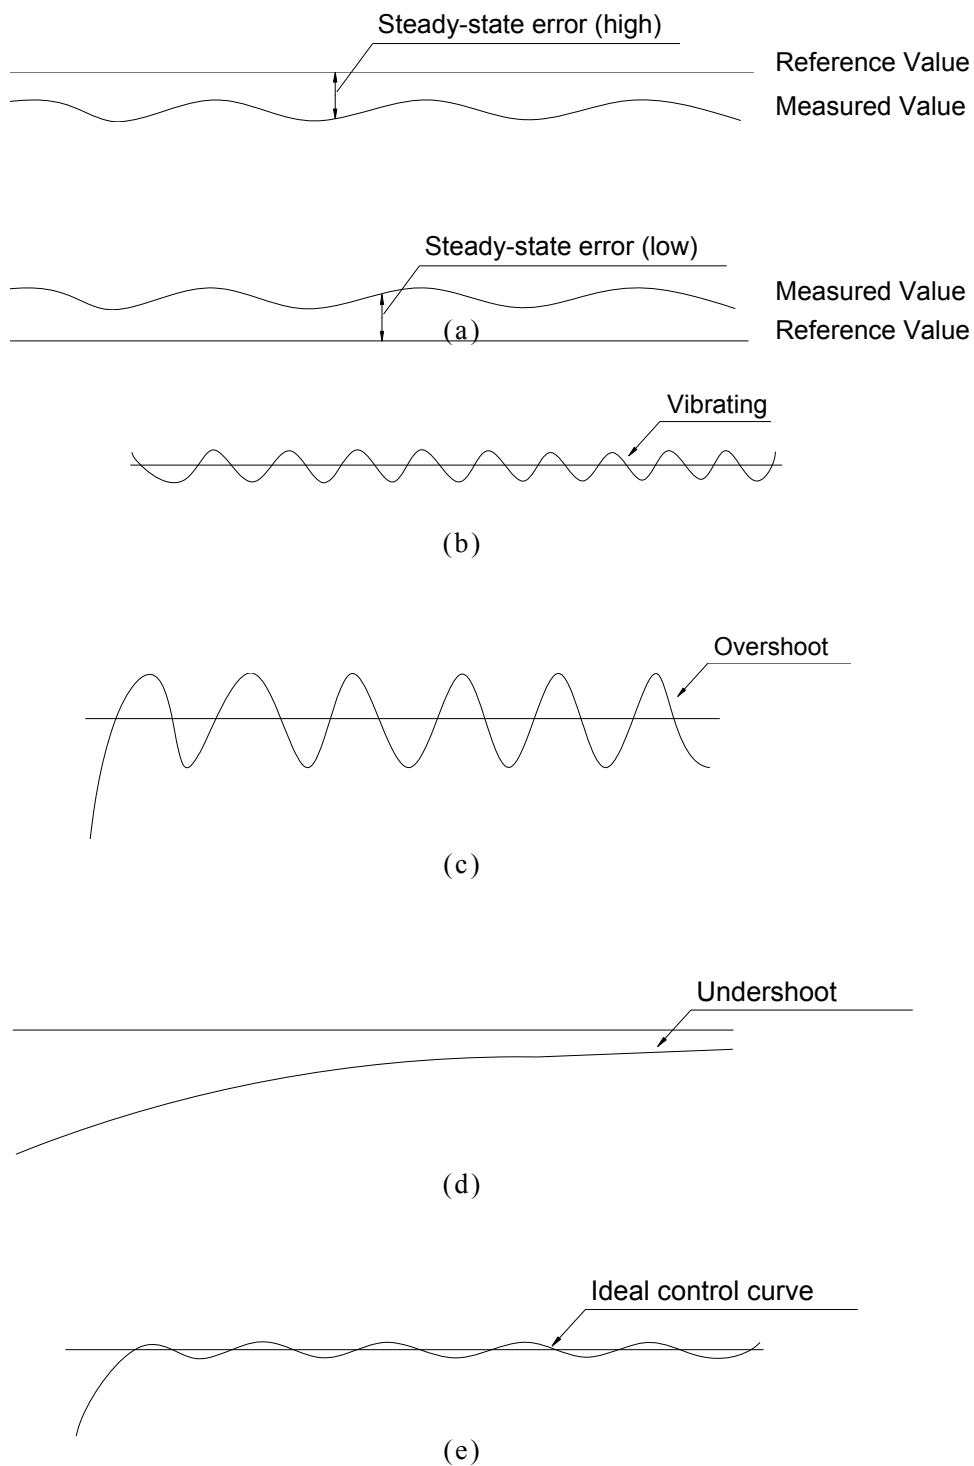

Figure 10-5
- a. When there is deviation between measured diameter and reference (positive or negative) lasting for a long time [see Figure 10-5(a)], it suggests that the system has “steady-state error”. Increase parameter I to remove “steady-state error”.
- b. When measured diameter is changing constantly up and down near reference for a long time [see Figure 10-5 (b)], it suggests that system has “vibration”. Reduce parameter I to control “vibration”.
- c. When measured diameter rapidly reaches reference and vibrates in control mode [see Figure 10-5(c)], it suggests that system is “overshoot”. Reduce parameter P to eliminate it.
- d. When measured diameter costs long time to reach reference or could not reach in control mode [see Figure 10-5(d)], it suggests that system is “undershoot”. Increase parameter P to eliminate it
In a word, parameter P decides adjusting speed, parameter I decides control precision. The ideal control curve is indicated by Figure 10-5(e).